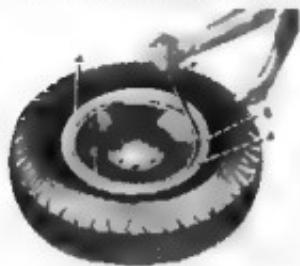

Fig. 64— $\frac{1}{4}$ Ton Tire Installation
6. Place the retainer ring on the wheel rim and start the side of the ring opposite the square notch into the rim gutter, at "C" (fig. 64) making sure the two cutaway portions of the ring rest on the sides of the wheel at "A". Hold the first portion of the ring in the rim gutter and pry the remaining portion over the wheel rim. To pry the last portion into place, insert the tire iron in the notch "B", thus putting tension on the ring, and tap the ring with a hammer until it drops into place.